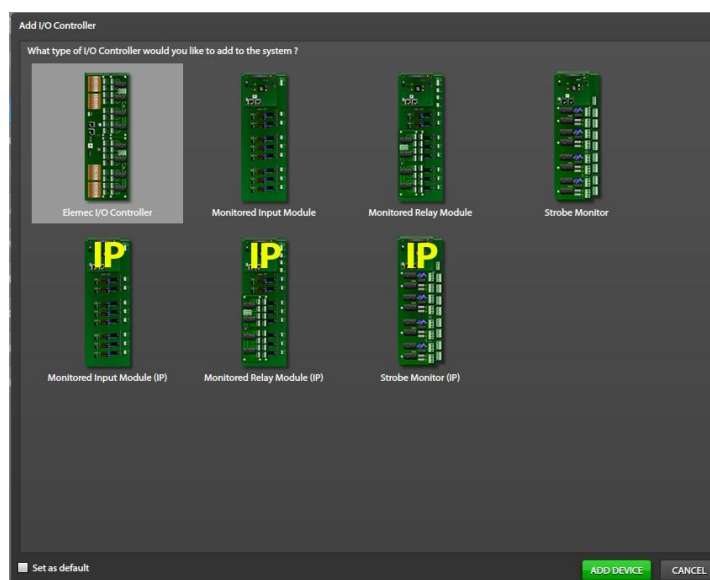

Figure 49. Add I/O Controller
- Select one of the seven types of I/O controller on the ADD I/O CONTROLLER screen (see Figure 49).